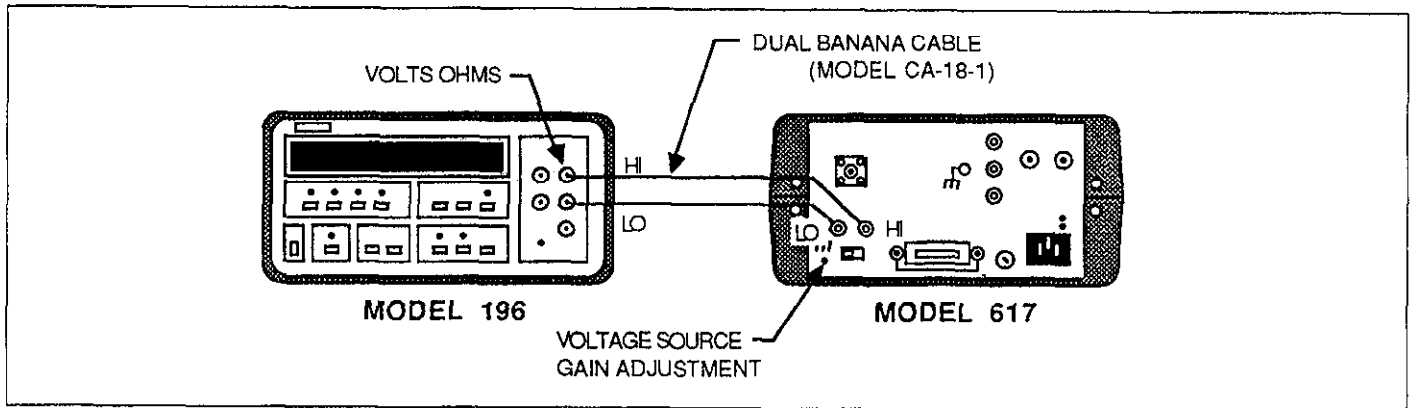

Figure 4. Voltage Source Verification Setup
1. Connect the DMM to the voltage source output terminals, as shown in Figure 4.